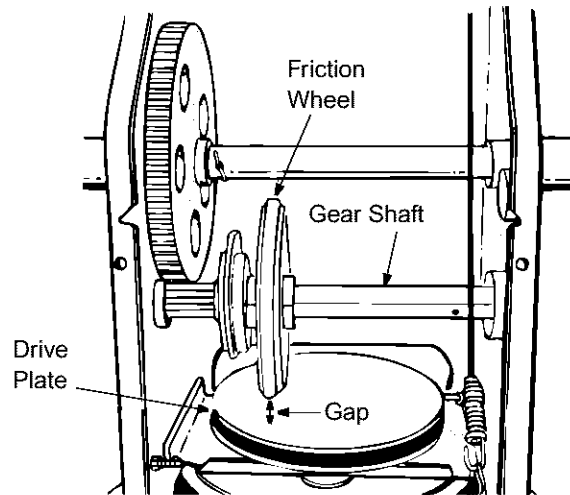

Figure 18
3. When the traction control is released, there must be clearance between the friction wheel and the drive plate in all positions of the shift lever. When the traction control is engaged, the friction wheel must contact the drive plate. See Figure 18.